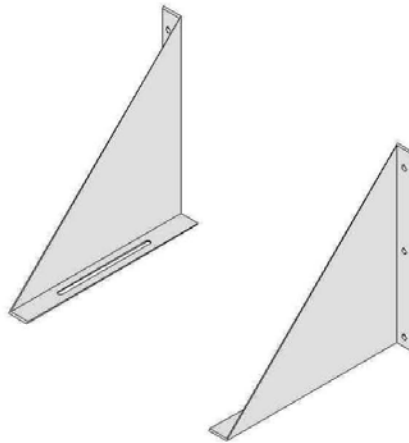

Figure 5. Wall Bracket (WBR)
- v. WALL BRACKETS (WBR) – Secure the wall brackets (Reference Figure 5) to supporting construction using a min. of six 1/2 in. bolts/anchors (three per bracket). Use appropriate type fasteners for the intended construction and as specified by the responsible design professional. Mount the Pre-Fabricated Grease Duct (Item 1) to the wall brackets using either the Plate Support Assembly (Item 3Bii) or the Flange Support Assembly (Item 3Biii) using min. 3/8 in. bolts and nuts.